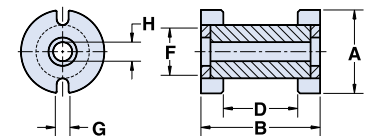

Figure 5
- Bobbins in Figures 2-5 can be supplied with a uniform coating of white thermo-set plastic coating which can withstand a minimum breakdown of 500Vrms. This coating will change the dimensions a maximum of **0.25mm (.010")**. The last digit of the thermo-set plastic coated part is an "8". Bobbins in Figure 5 can be supplied with notches at one end only. This changes the last digit of the part number to a "7". Bobbins of this type can also be provided with a thermo-set plastic coating. The last digit then becomes a "6".